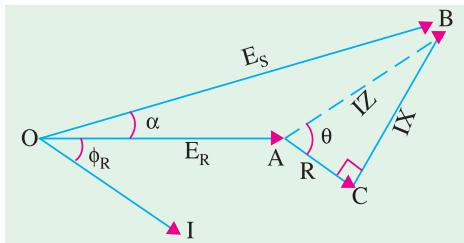

Fig. 41.21
Let us take  $E_R$  as reference vector as shown in Fig. 41.21 so that  $E_R = (E_R + j_0)$
**Solution.** The vector diagram is similar to that shown in Fig. 41.21. Here